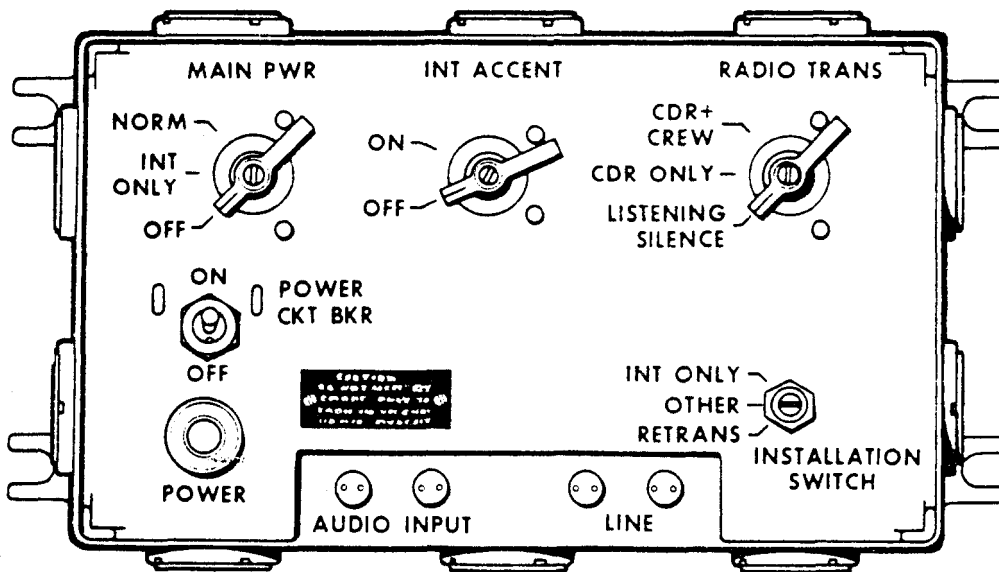

Figure 11-1. AM-1780 Amplifier
(1) Turn turret power on. Turn MAIN PWR switch on the AM-1780 to INT ONLY. Power is now available for only intercom equipment. See figure 11-1.
(2) Turn POWER CKT BKR switch on the AM-1780 to ON. This supplies power to AM-1780 and all control boxes connected to the AM-1780.